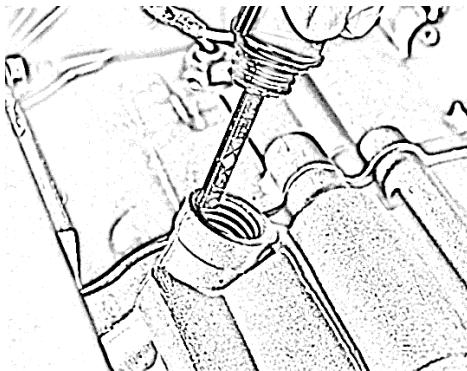

Figure 9
- Unscrew the oil filler plugs with connected dipstick, Fig. 9.